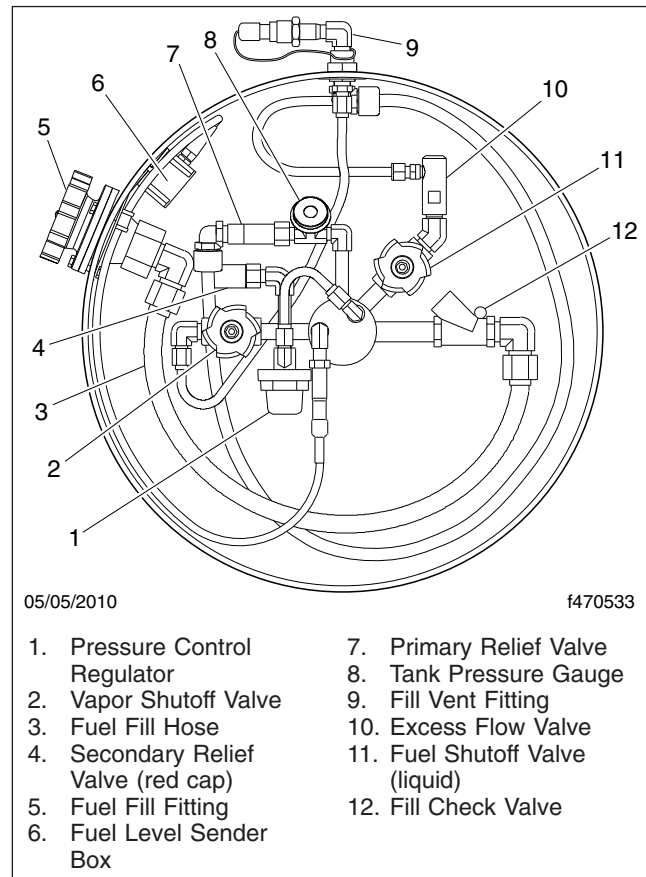

Fig. 9, Fuel Tank Plumbing Components
See **Fig. 9** for plumbing component locations.
2. Inspect the fuel level sender box (**Fig. 9**, Item 6) for signs of leaks or damage. Ensure that the retainer clips are installed on the mounting ears.
2. Check the fuel tank pressure gauge (Fig. 9, Item 8) to ensure that pressure is within the normal range of 120 to 150 psi (827 to 1034 kPa).